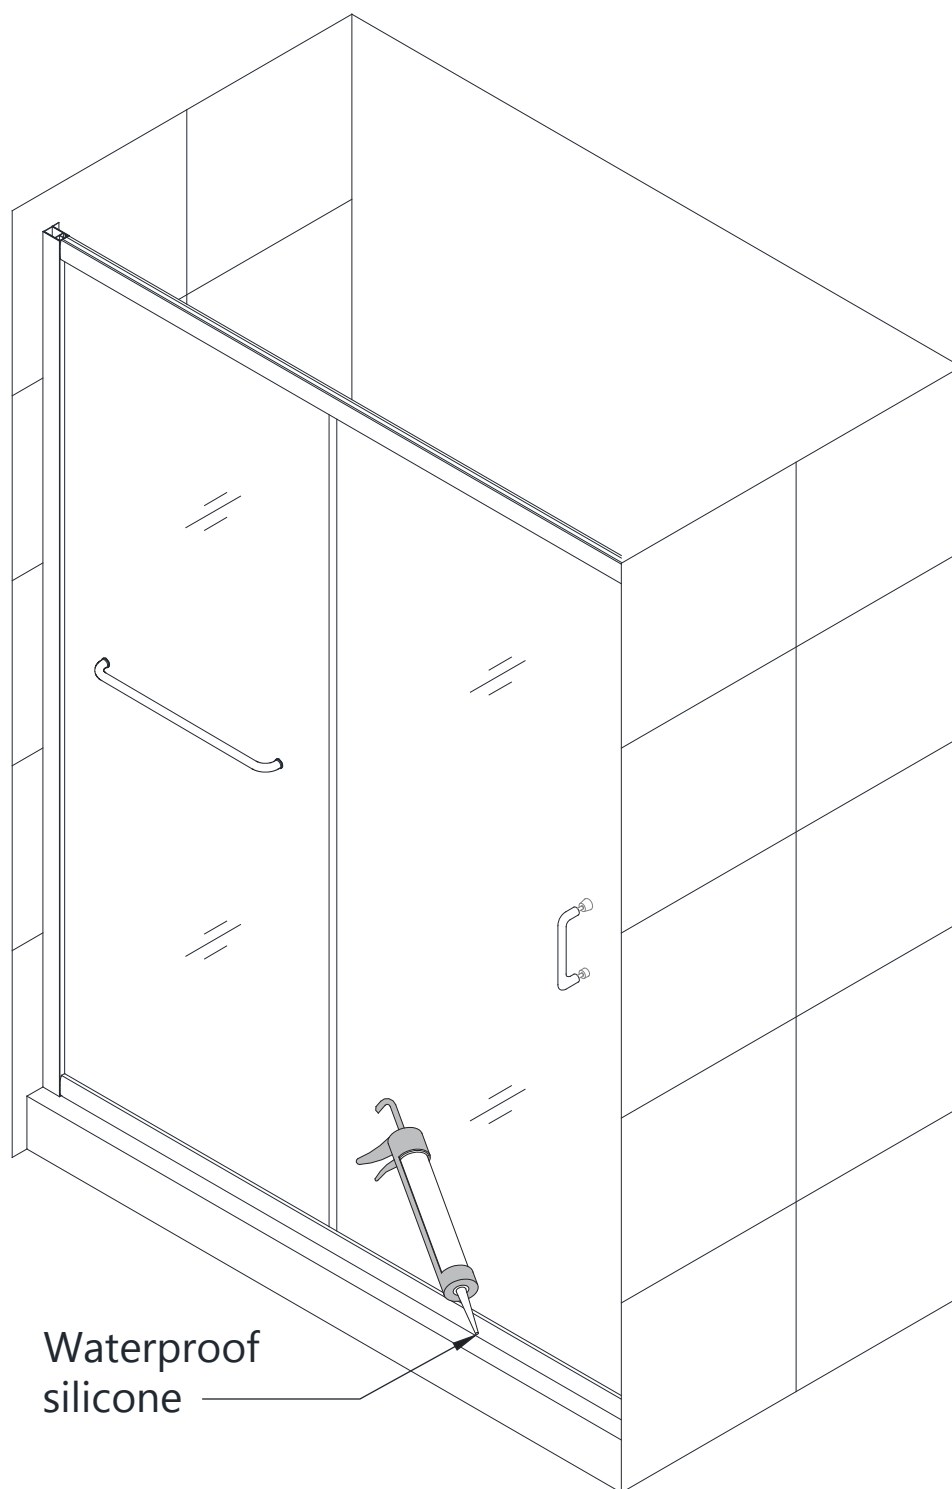

Fig 16
16. Apply good quality mildew-resistant silicone along the profiles and guide rails; on the seams between the bottom guide rail and the profiles as well as along the shower base or threshold. Allow 24 hours for the silicone to cure before using the shower. **(Fig 16)**